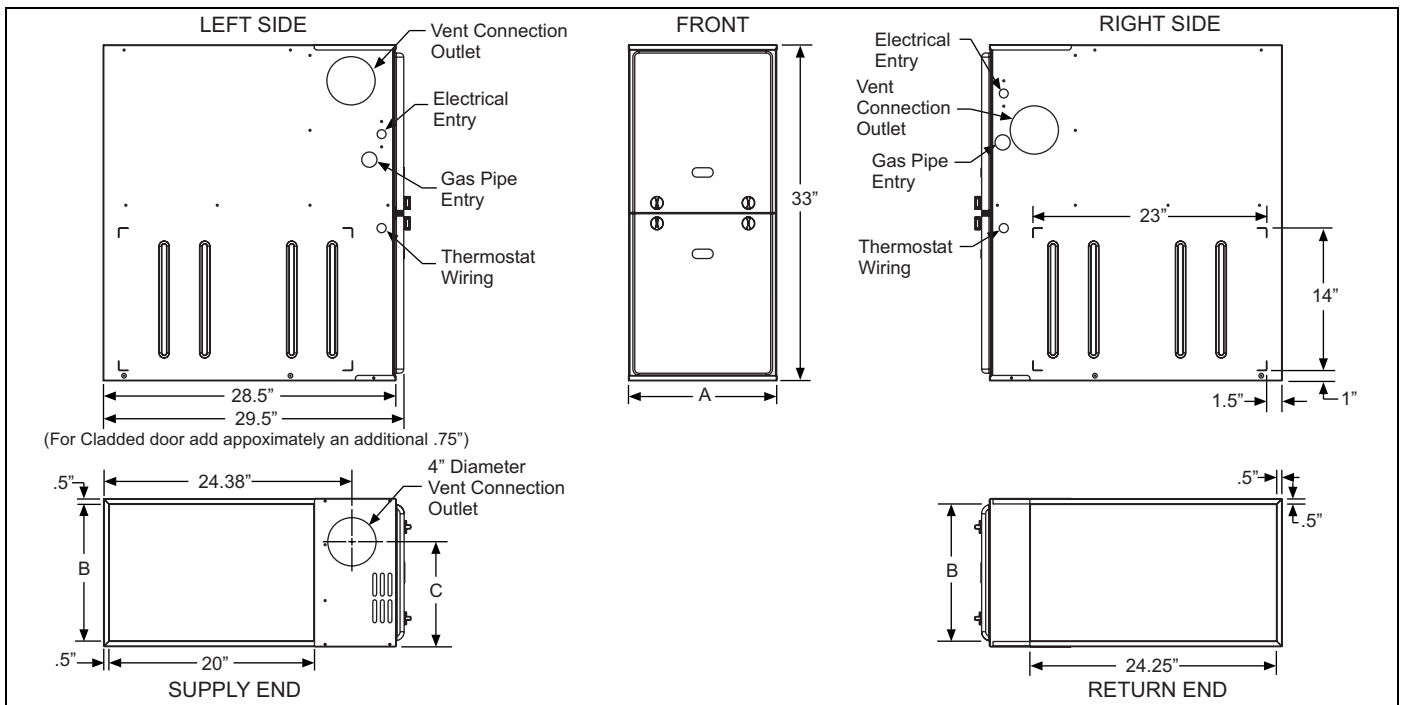

FIGURE 14: Dimensions
*Some accessories such as electronic air cleaners and pleated media may require a larger side opening. Follow the instructions supplied with that accessory for side opening requirements. **Do not** cut the opening larger than the dimensions shown in Figure 14.*
Gas piping may be connected from either side of the furnace using any of the gas pipe entry on both sides of the furnace. Refer to Figure 14.